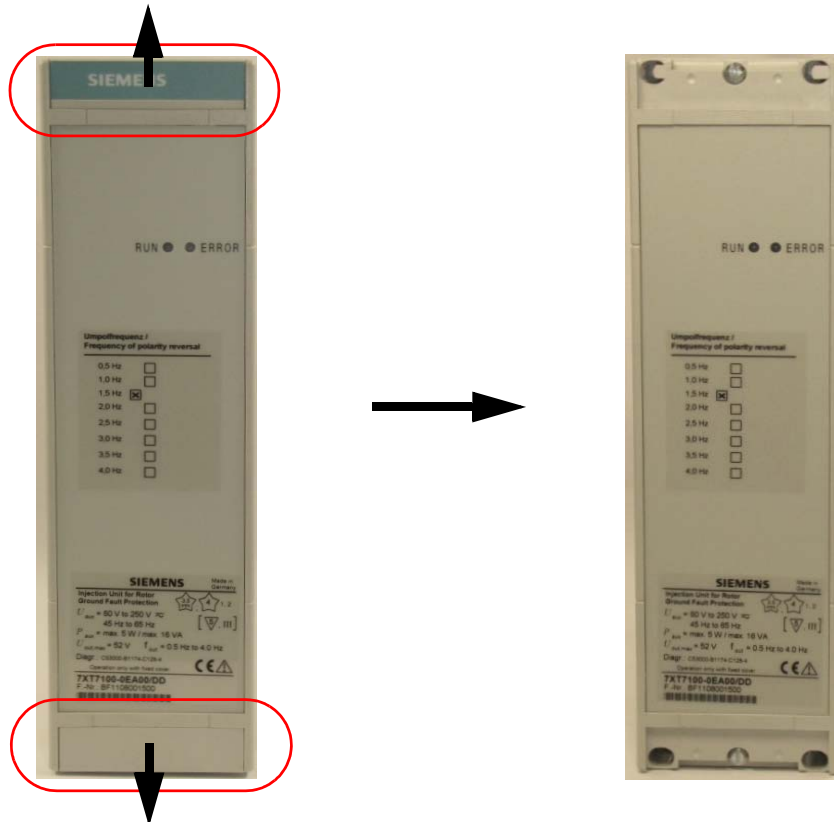

Fig. 8-1 Pulling off the Cover Caps
- ✧ Remove the 2 cover caps on the front cover upward and downward, respectively (see figure 8-1).
- ✧ Push the 2 cover caps back into the front cover (see figure 8-1).